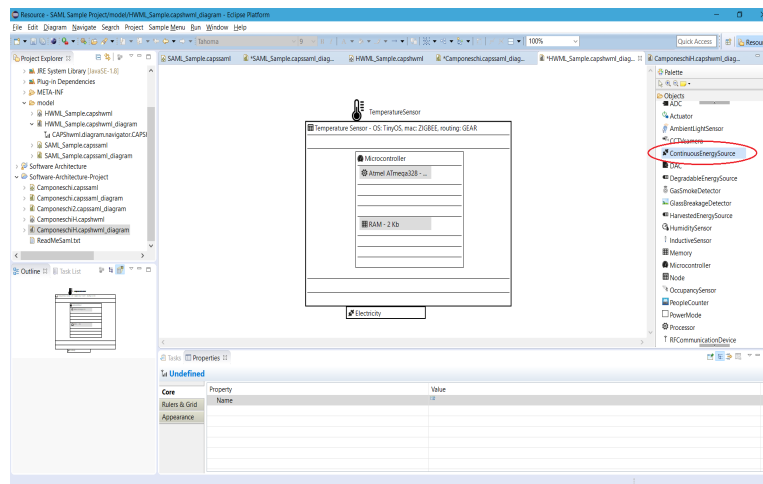

Figure 3.4: Final result
- From the object view, select **ContinuousEnergySource**, place it on the node and call it **electricity**: it means that the node is powered by a continuous energy source that is **electricity**. In the end, add also the TemperatureSensor object. The final result is showed in the figure 3.4;